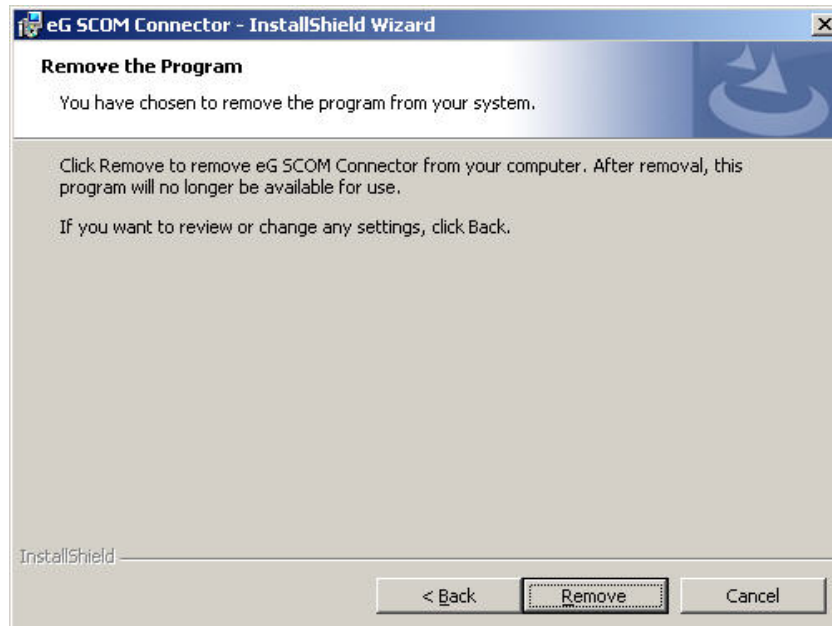

Figure 4.49: Confirming the connector uninstallation
6. When Figure 4.49 appears, click the **Remove** button here to confirm the uninstallation of the connector.